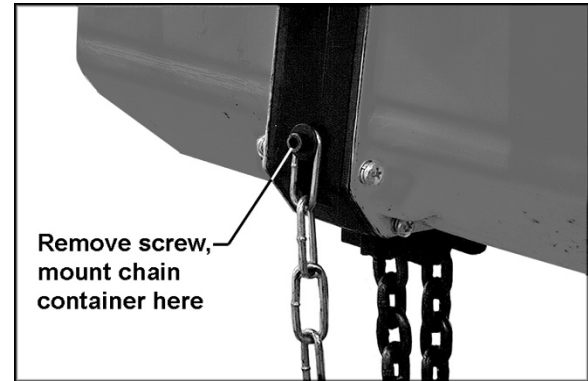
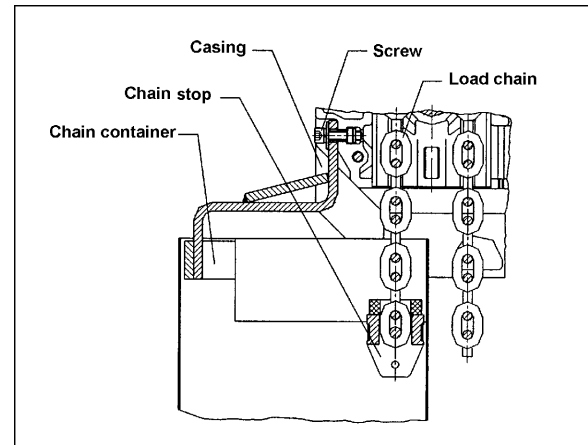

Figure 10
Figure 11
7. Remove the screw and washer holding the end chain to the hoist (Figure 10). Mount the bracket of the chain container in that location as shown in Figure 11.
8. Put the chain stop into the container (Figure 11) and operate the hoist to bring the load hook up until the upper limit switch is tripped.